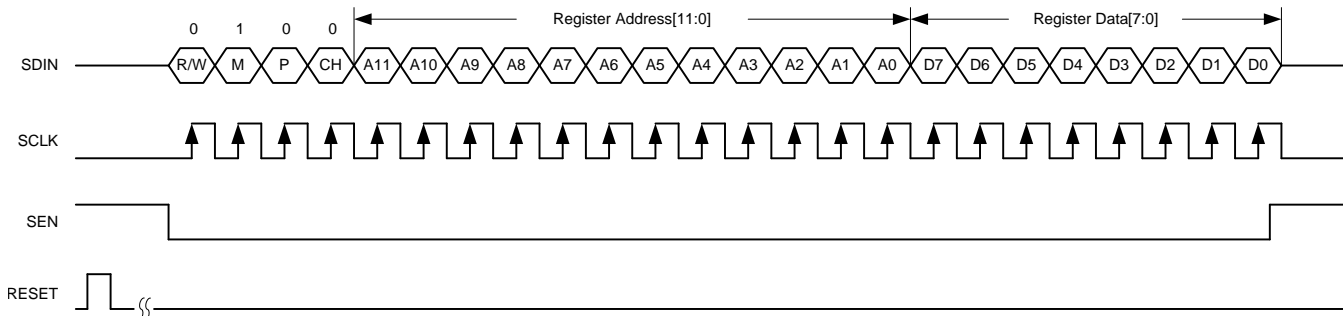

Figure 71. SPI Page Selection
2. Setting the M bit to 1 and specifying the page with two register writes. Note that the P bit must be set to 0, as shown in Figure 71.